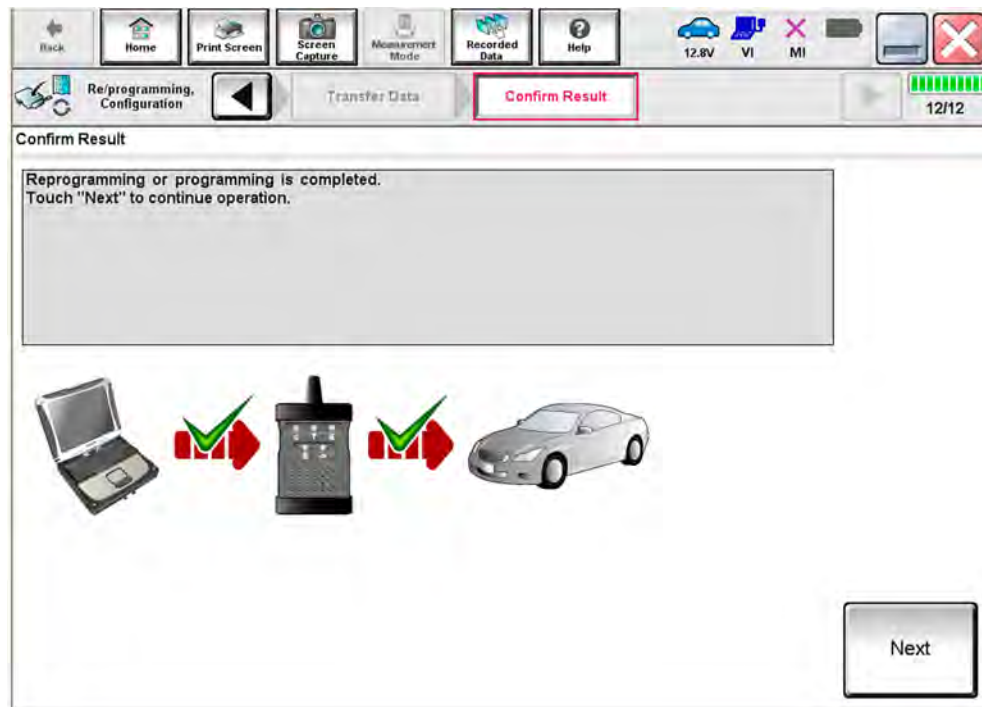

Figure 70
- If the screen in Figure 70 displays, reprogramming is complete. Skip to step 71 on page 39.
- If the screen in Figure 70 does not display (indicating that reprogramming did not complete), continue to step 70 on page 37.